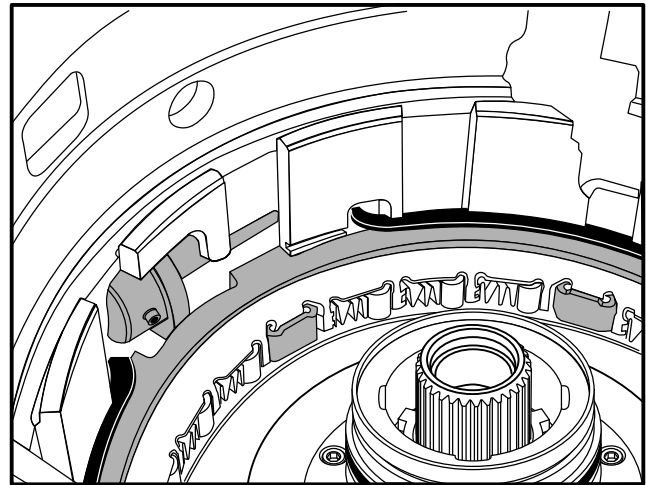

Figure 187
**Note: Snapring opening "must" be placed as shown in Figure 187.**